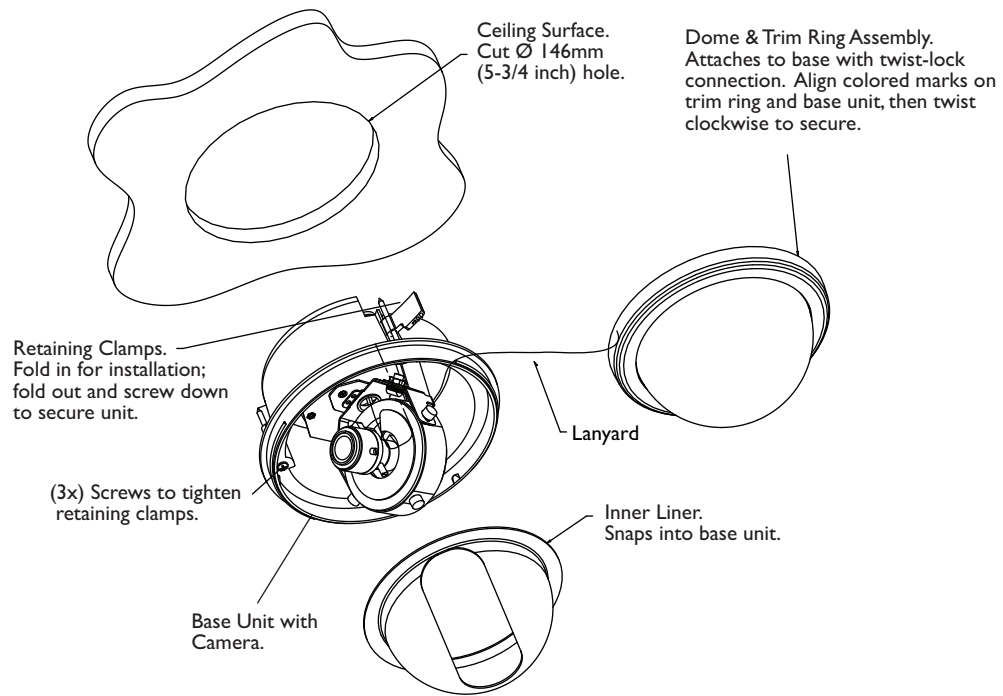

Figure 2 In-ceiling Installation
2. Install the base assembly box into the precut hole until the base's flange hits the ceiling. Tighten the three screws that serve to lower the mounting clamps to grab on to the ceiling. Be sure the clamps are secure against the ceiling (see **Figure 2**).
4. Once the camera is positioned properly, install the black inner liner and align the viewing slot with the camera and lens (see **Figure 2**).
6. Once the camera is positioned properly, install the black inner liner and align the viewing slot with the camera and lens (see **Figure 2**).
7. Once the camera is positioned properly, install the black inner liner and align the viewing slot with the camera and lens (see **Figure 2**).